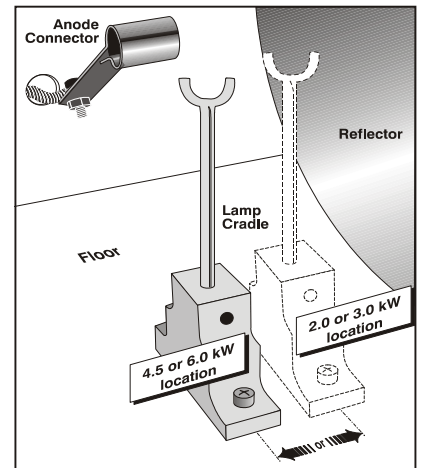

Figure 3-19 Lamp Cradle Position
- For 2.0 or 3.0 kW lamps, move the cradle to the rear position, i.e., approximately 1” closer to the reflector (**Figure 3-19**).